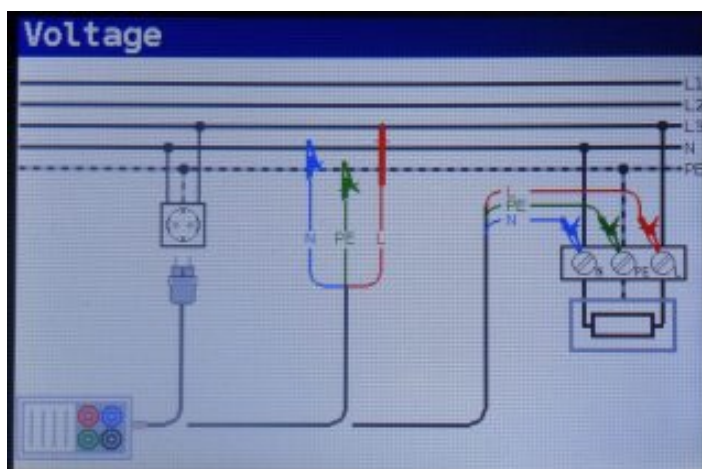

Figure 5-44: Connection diagram
Step 2 Connect test cable to the VOLTCRAFT IST instrument and follow the connection diagram shown in figure 5.44 to perform a voltage and frequency measurement.